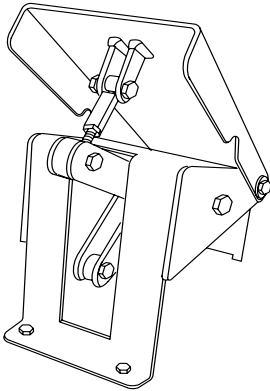

Figure 12. Blade Speed Control Foot Pedal
1. The foot pedal (Figure 12) solely controls blade speed. The position of the foot pedal determines the blade speed. Slow blade speed is obtained by slightly depressing the pedal. Maximum blade speed is obtained by fully depressing the pedal.